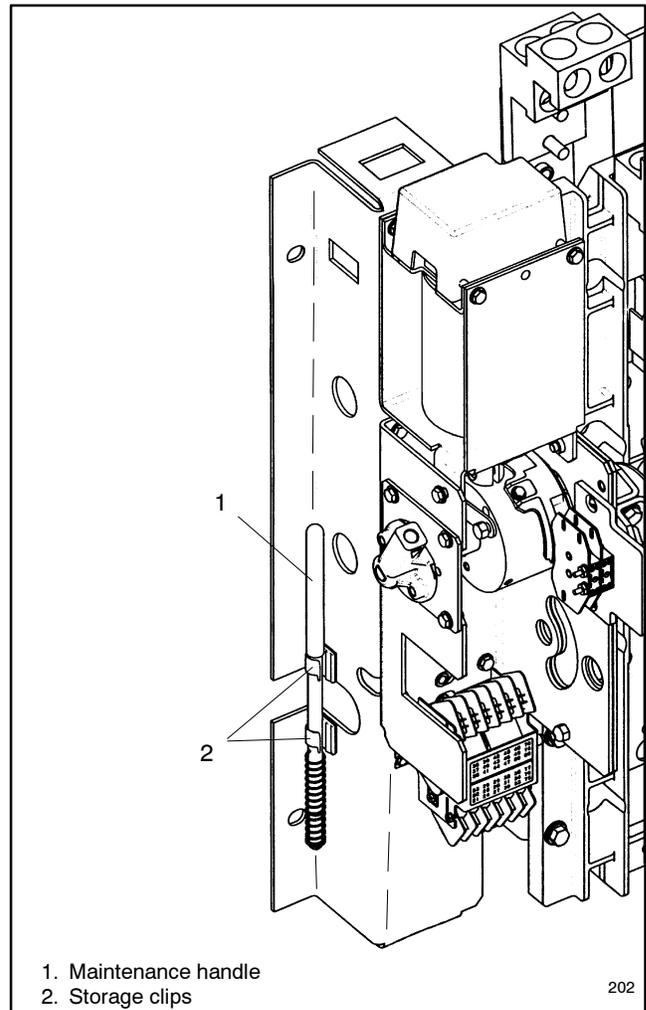

Figure 2-8 Manual Handle Storage, 600–1200 Amp Switch Shown
1. Remove the maintenance handle from the clips on the left side of the transfer switch frame. See Figure 2-8.
Programmed-transition models use a detachable manual operating handle. Refer to Figure 2-8 through Figure 2-12.